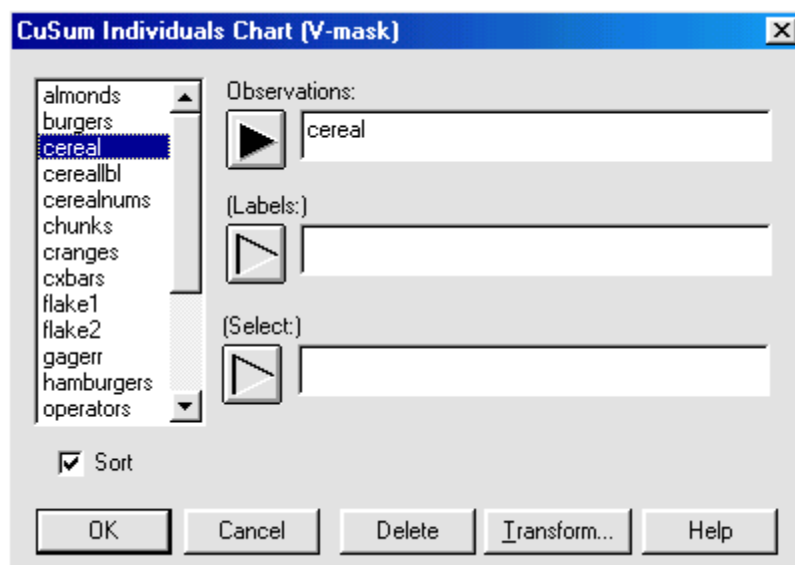

Figure 5-60. CuSum Individuals Chart (V-Mask) Analysis Dialog Box
1. Choose SPECIAL... QUALITY CONTROL... TIME-WEIGHTED CHARTS... CUSUM INDIVIDUALS CHART (V-MASK)... from the Menu bar to display the Analysis dialog box shown in Figure 5-60.